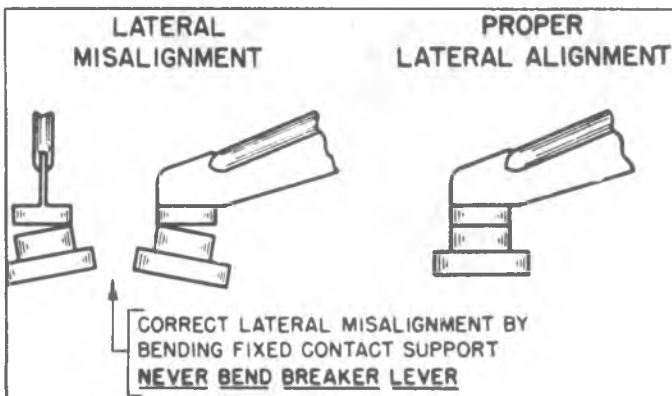

Fig. 6—Point Alignment
- Check point alignment (fig. 6) then, adjust distributor contact point gap to .019" (new points) or .016" (used points). Breaker arm rubbing block must be on high point of lobe during adjustment.